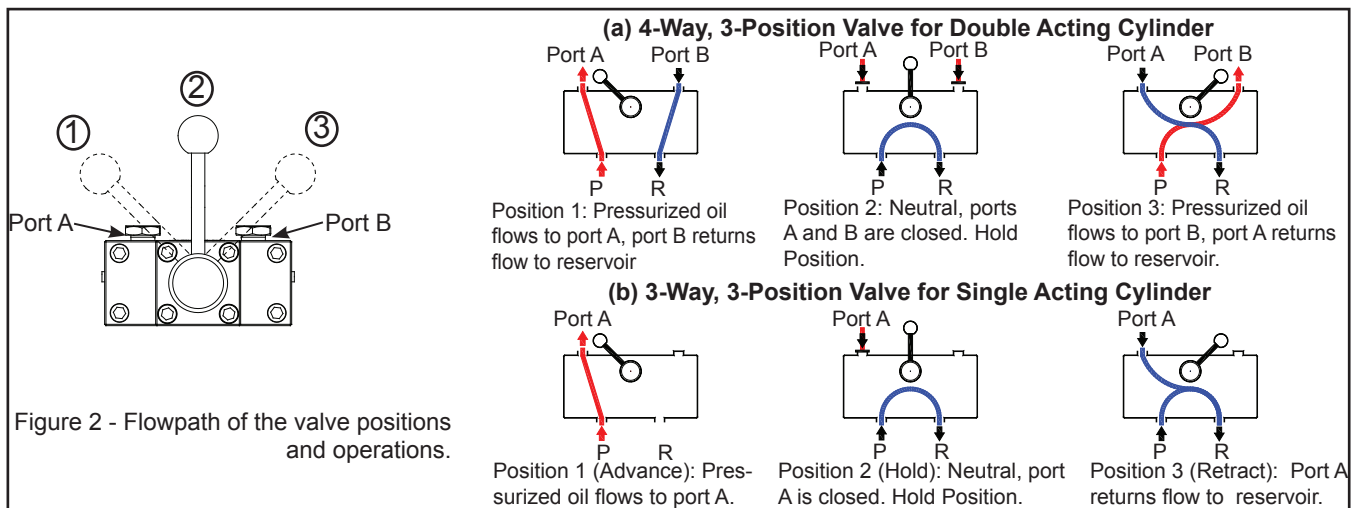

Figure 2 - Flowpath of the valve positions and operations.
6. Use the control valve lever to control the direction of fluid flow. These pumps are equipped with a 3-way 3-position valve for use with single acting cylinder applications **ONLY**. Refer to Figure 2 below for the flow path.
11. Depressurize all connections before disconnect. If you have any questions, call BVA Technical Service @ (888)-332-6419.